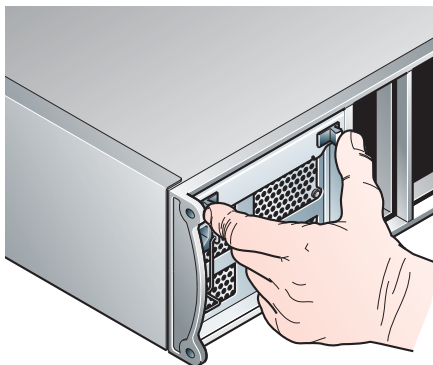

Figure 2 Fitting/Removing a PSU Module
4. Cam the module home by manually closing the PSU handle (see Figure 2). A click should be heard as the handle latches engage.
handle together and open the handle (Figure 2) to cam the PSU/Cooling module out of the enclosure.